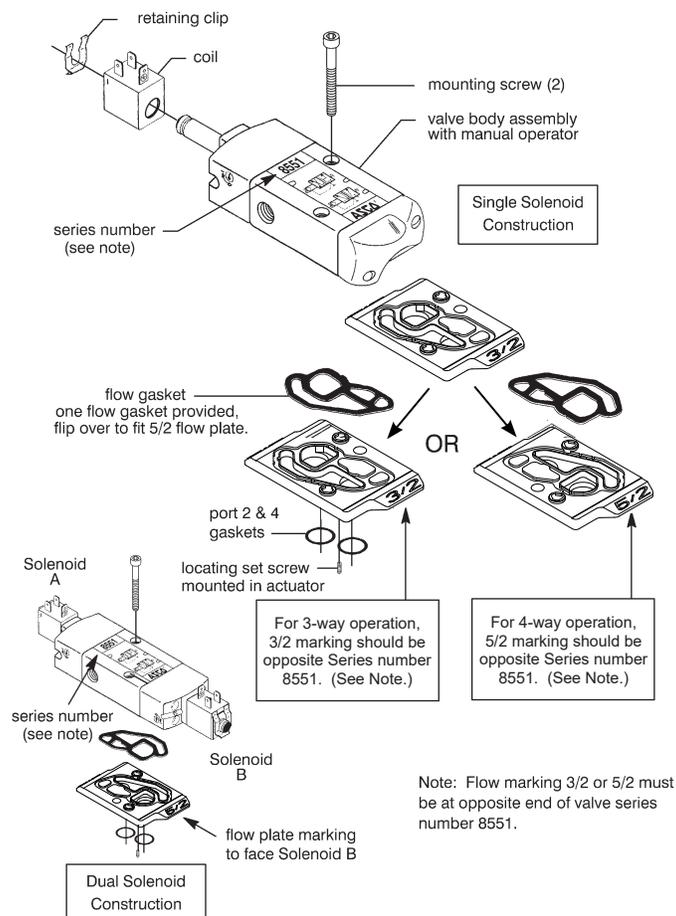

Figure 4. Series 8551 Direct Mount Versions shown with prefix SC coil and Universal Flow plate.
- One Universal Flow plate:** (Refer to Figure 4)
Flow plate is marked (3/2) for 3-way or (5/2) for 4 way. For proper orientation of the flow plate, the marking (3/2) or (5/2) must be opposite series number 8551 flow diagram label on valve body or facing solenoid "B" for dual solenoid construction. See figure 4, for proper orientation of flow plate, gaskets, mounting screws and locating set screw. Then proceed with steps 1 through 3 above for two flow plates.